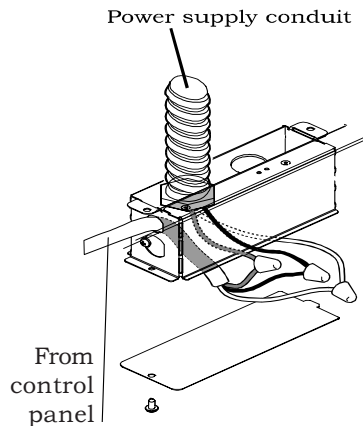

Figure 11
2. Remove the j-box cover as shown in **Figure 11**.